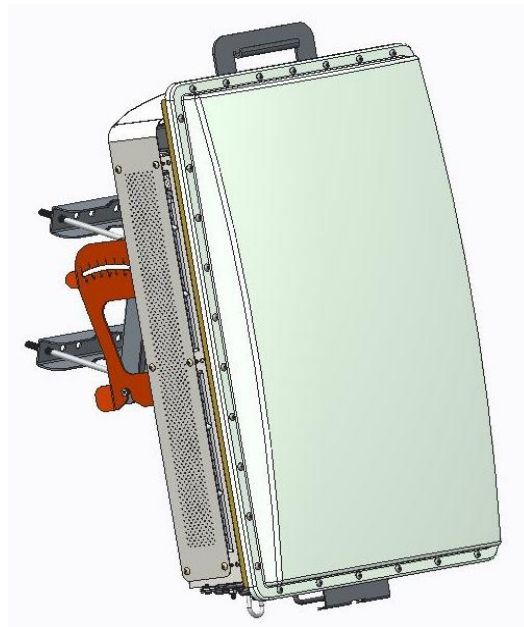

Figure 1 - Base Station
The package contains (1) embedded device: Base Station (Figure 1) shown below.